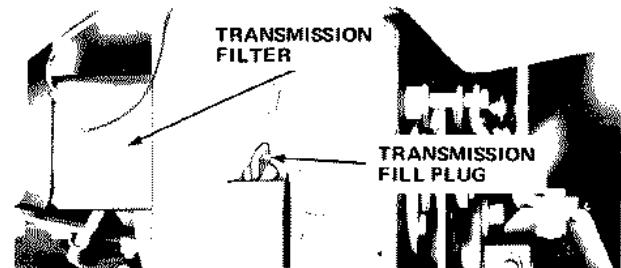

Figure 12
**HYDROSTATIC TRANSMISSION** — Remove ignition key. Remove all dirt from around transmission filler plug area and filter. Clean transmission cooling fins periodically. If tractor is operated in a dusty environment, check and clean cooling fins more frequently. Consult your Bolens dealer for transmission maintenance. (See Figures 12 and 13.)